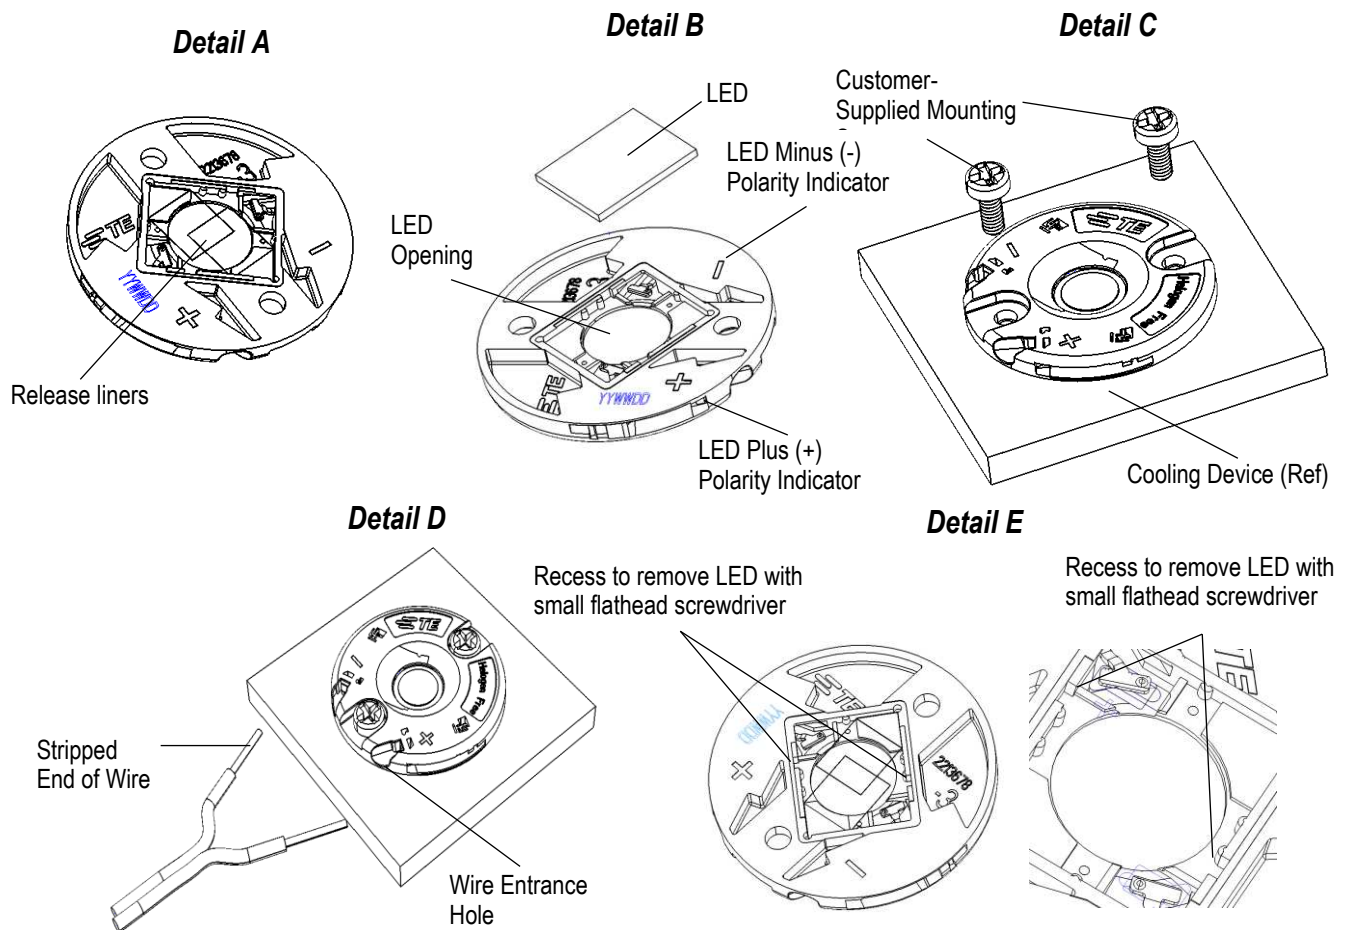

Figure 4
1. Take both release liners in the middle with a tweezer and pull the release liners with one move perpendicular to the release liners off the tape. See Figure 4, details A.
2. The LED polarity indicator must be observed when orienting the LED into the LED opening. Insert the LED and push the LED hard down in the corners with the tape, ensure you do not press the light emitting (yellow part) part of the LED. See Figure 4, details B.
3. The LED holder (bottom side) must be placed on the cooling device so that the screws holes align over the holes in the cooling device. The LED holder must be secured to the cooling device using two customer-supplied M3 or No. 4-40 with minimum length of 8mm mounting screws. Each mounting screw should be tightened to a torque between 0.4Nm and 0.6Nm [3.45 and 5.31 in.-lb]. See Figure 4, detail C.
4. Strip the end of each wire, ensure the wire end is acceptable (see figure 2, proper length and shape). Insert the wire straight (aligned with centerline of the hole) in the entrance hole according the polarity indicator until the wire bottoms. See Figure 4, Detail D.
Defective or damaged LED holders must not be used. Wires can be removed by turning and lightly pulling the wires, this may be done maximum of 3 times, however doing this might damage the wire clamping force and is not recommended. The maximum mating cycle for the terminated LED holder (inserting a LED) is 3. The LED can be removed using a small flathead screwdriver and using the recess in the bottom next to the LED to lift the LED out of the holder. See Figure 4, Detail E.